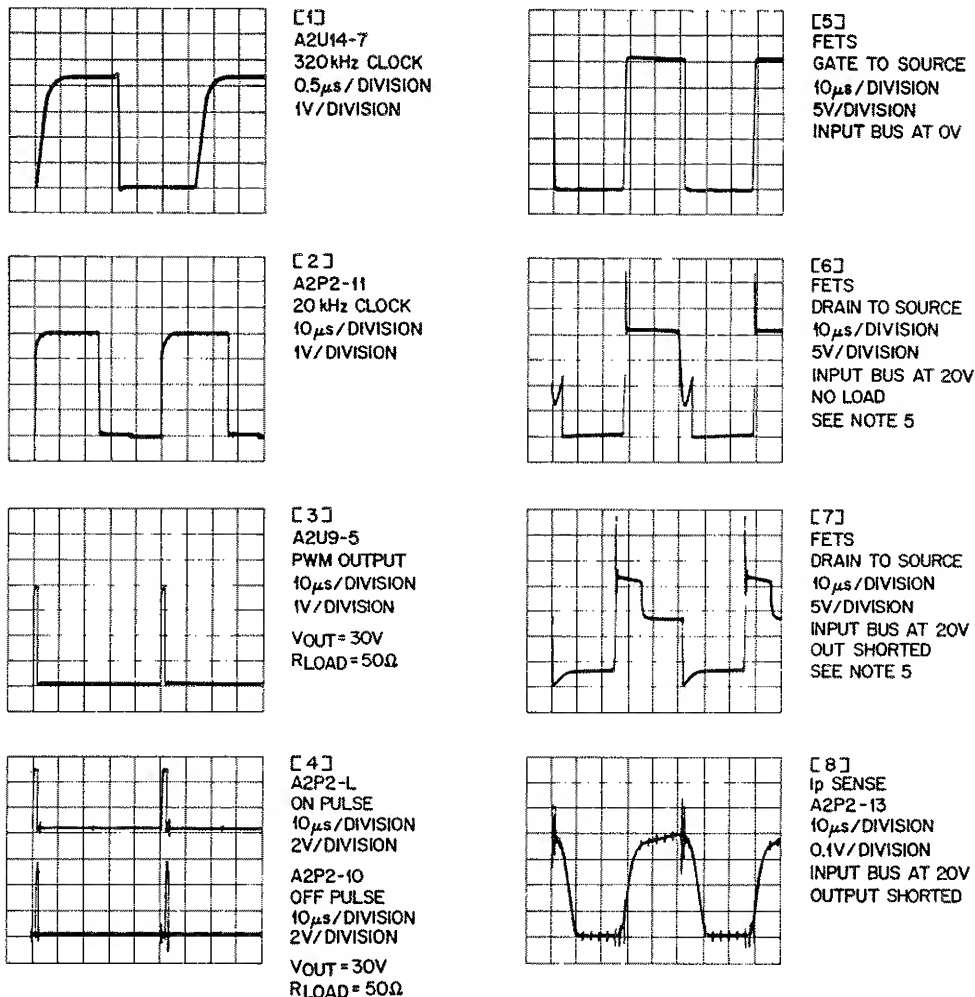

Figure 7-8. Waveforms
f. Power supply waveforms (Figure 7-8), illustrating waveforms found at key points in the power supply.